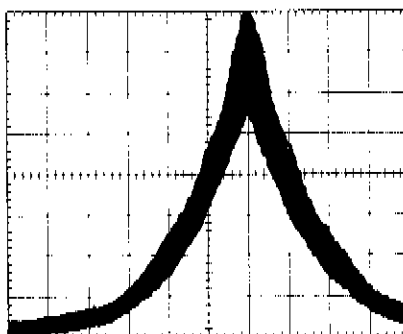

Figure A5-4. 4.2099 and 4.210 GHz Waveform on Spectrum Analyzer
- g. On A2 Frequency Control, set RANGE MHz switch to .5 - 1300. At bottom of A1 Source/Converter, disconnect cable W9 from A9J1. Connect HP Model 8555A Spectrum Analyzer to the end of cable W9. "4.2099 GHz" output. Set Spectrum Analyzer for 3 kHz bandwidth. Adjust "Wn" A1A15A1R11 control for the least peaking of the noise sidebands (See Figure A5-4.)
- f. At bottom of A1 Source/Converter, disconnect cable W8 from A11J1. Connect HP Model 8555A Spectrum Analyzer to the end of cable W8, "4.210 GHz" output. Set Spectrum Analyzer for 3 kHz bandwidth. Adjust "Wn" R7 control for the least peaking of noise sidebands. (See Figure A5-4.)